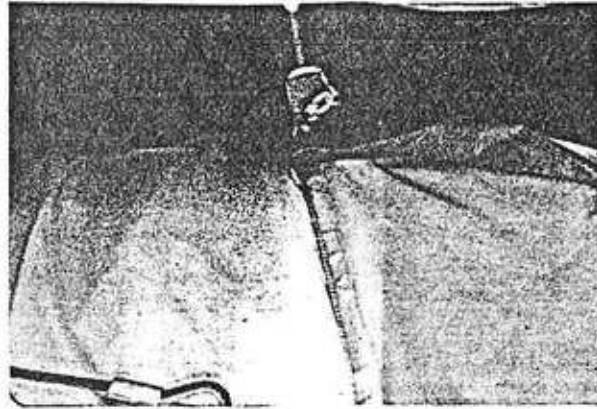

FIGURE 20
- J. Place the elastic rope up and over the Silobag just to the front side of the middle support rib on the compacting tunnel. Both ends of the rope are to be threaded through the triangular eyes of the bag pan arms and up to support arms. Figure 20